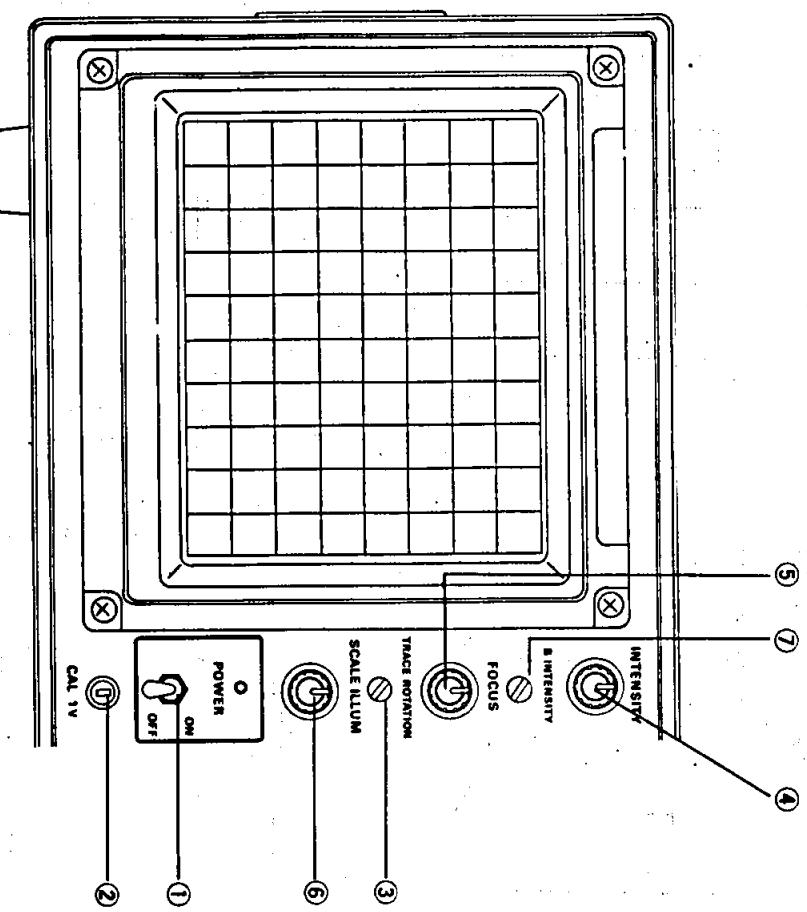

Figure 4-4 (Front side of CRT part).
Before operating the instrument, please do following acts which enables further operation correct and smooth. The numbers in O are function knobs shown on the figures 4-4~6.
- Part of CRT Figure 4-4.